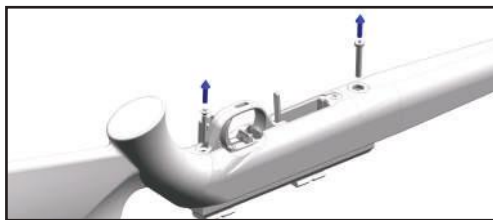

figure 9
3. Turn the gun upside down (figure 9).